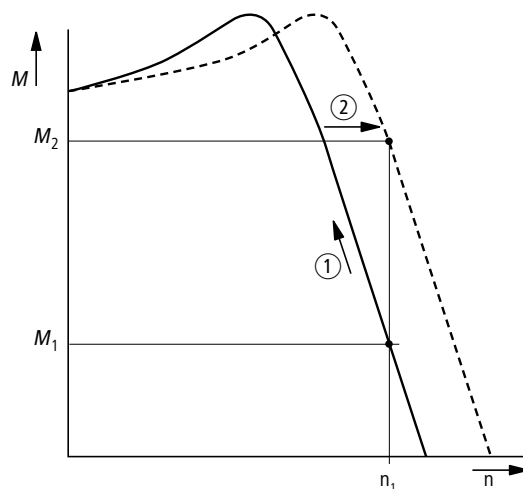

Figure 71: Speed behavior with slip compensation
The simple illustration shows that, as the load torque increases (①), the resulting speed reduction is compensated by an increase in the output frequency (②) (→ Figure 71).